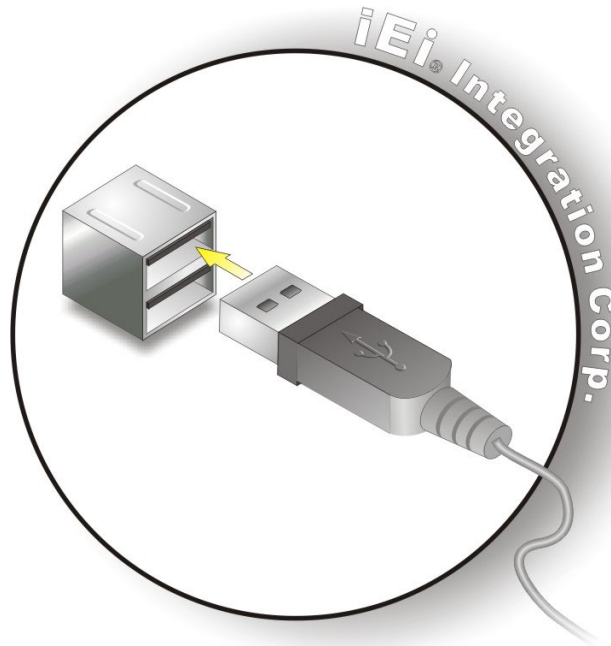

Figure 3-44: USB Device Connection
Step 2: **Align the connectors.** Align the USB device connector with one of the USB connectors on the bottom panel. See **Figure 3-44**.